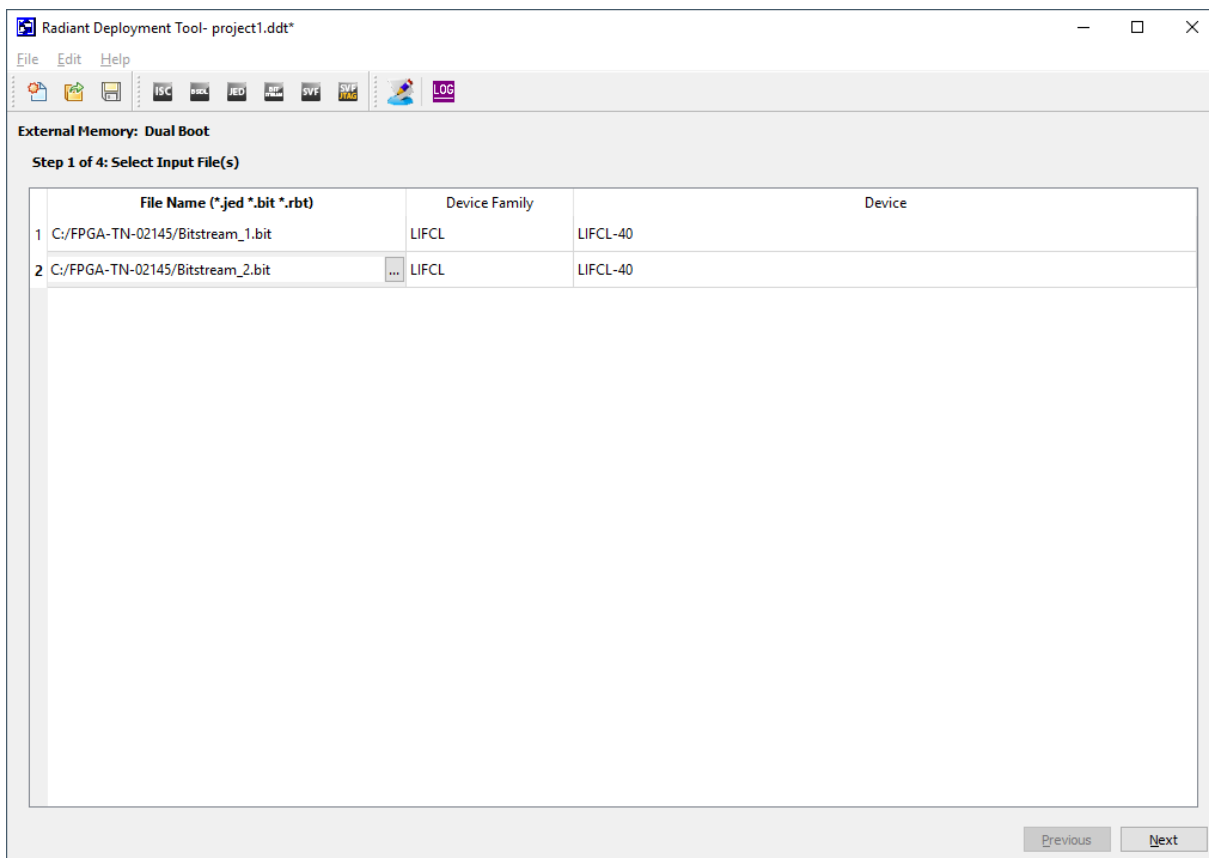

Figure 6.2. Select Input Files Window
Step 1 of 4: Select Input File(s) window (Figure 6.2)